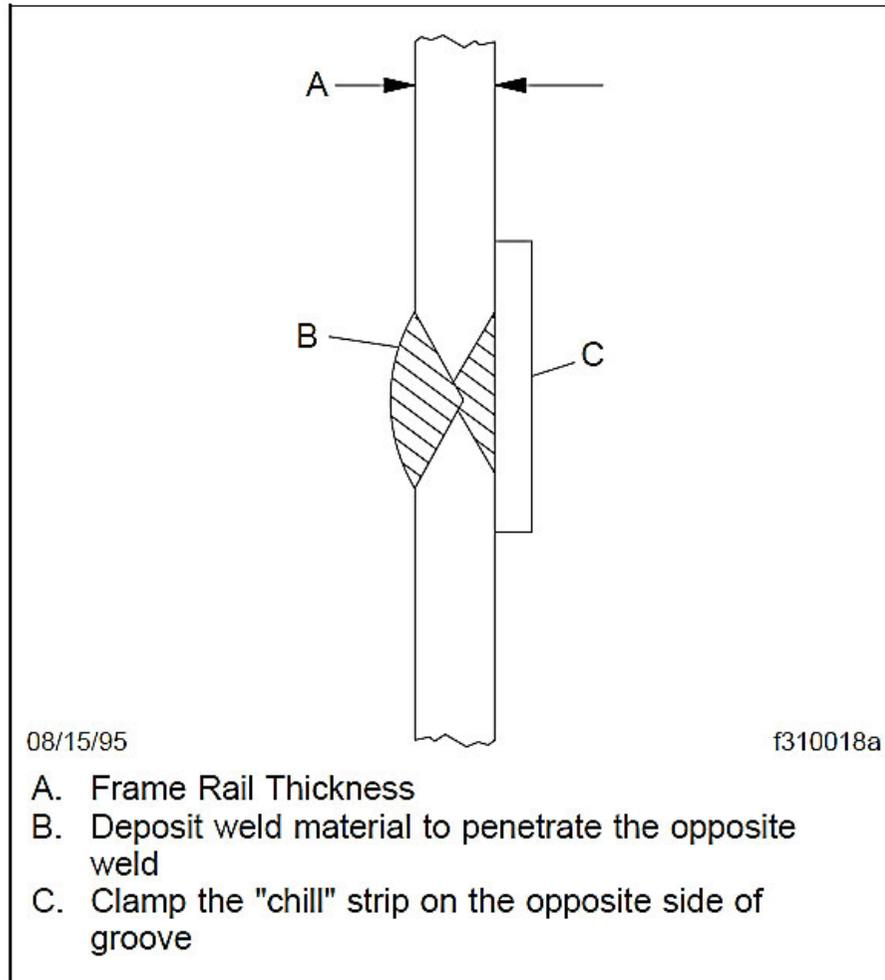

Fig. 7, Second Weld
- Clamp the "chill" strip on the opposite side of the groove. See Fig. 7. Weld the vee groove, as instructed above. Make full penetration of the weld.